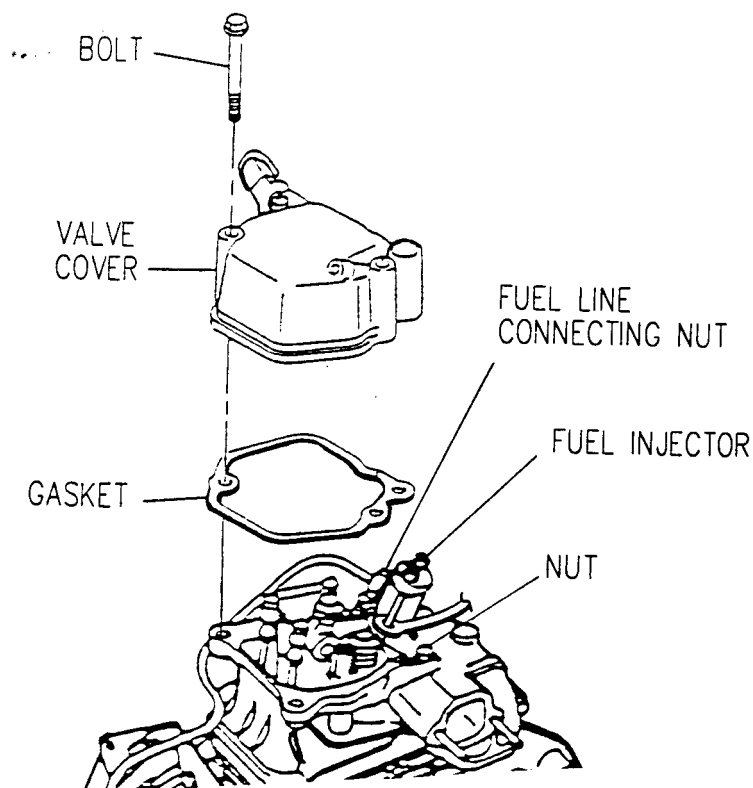

Figure 4-9. Torquing Cylinder Head Nuts
- b. Remove bolts securing valve cover (Figure 4-9). Then remove valve cover with gasket.